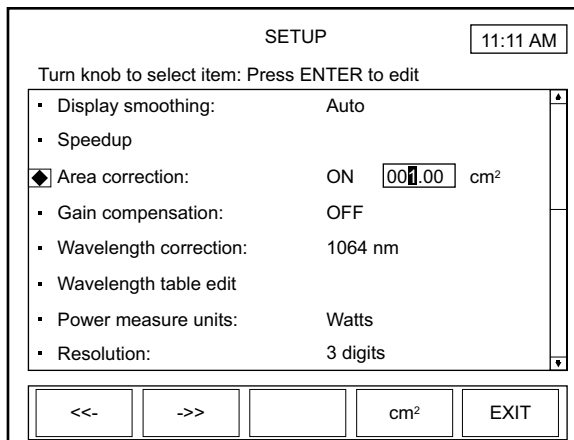

Figure 4-33. SETUP: Area Correction
2. Press the ENTER/SET button to highlight the editable field (Figure 4-33).
If you select ON as the Area Correction value, pressing the ENTER/SET button will display the range field (shown as 001.00 in Figure 4-33, above) and the unit of measurement (cm² in Figure 4-33). Continue to step 5.